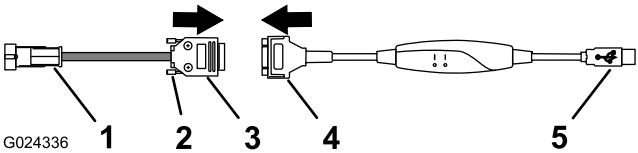

Figure 2
2. Connect the 9-socket connector to the 9-pin connector of the diagnostic cable (Figure 2).
3. Secure the adapter-harness connector to the diagnostic-cable connector with the 2 thumbscrews on the adapter connector (Figure 2).